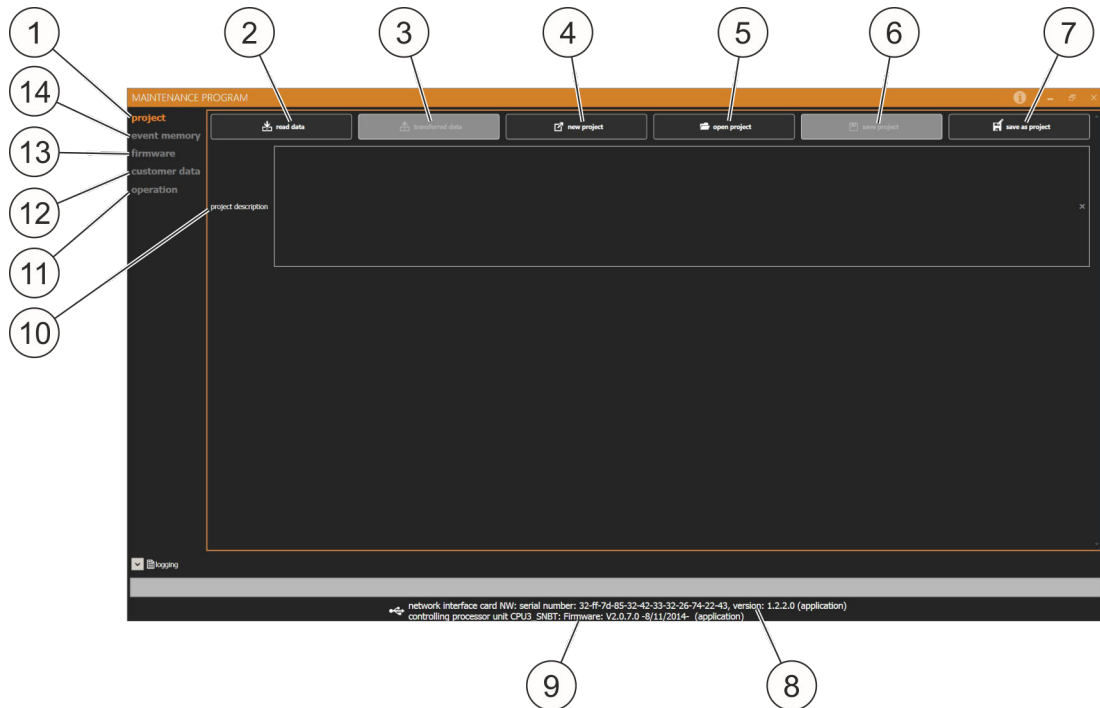

Fig. 68: Maintenance program homepage
- Project (Fig. 68 /1) ↪ Chapter 9.3 „Project” on page 85
- Import data (Fig. 68 /2) (gray background, if no system is connected)
- Transfer data (Fig. 68 /3) (gray background, if no data has been imported yet)
- New project (Fig. 68 /4)
- Open project (Fig. 68 /5)
- Save project (Fig. 68 /6) (gray background, if no project was opened previously)
- Save project as (Fig. 68 /7)
- Event memory (Fig. 68 /14) ↪ Chapter 9.4 „Event memory” on page 85
- Firmware (Fig. 68 /13) ↪ Chapter 9.5 „Firmware” on page 86
- Customer data (Fig. 68 /12) ↪ Chapter 9.6 „Customer data” on page 86
- Operation (Fig. 68 /11) ↪ Chapter 9.7 „Operation” on page 88
- Network Interface Card serial number, Network Interface Card version number (Fig. 68 /8)
- Firmware version (Fig. 68 /9)
- The project can be described in the project description (Fig. 68 /10).